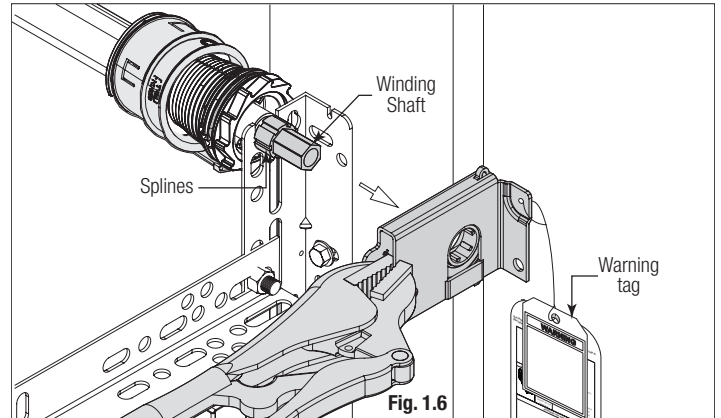

Fig. 1.6
**STEP 6:** Holding the end bracket with a pair of locking pliers, carefully pry the end bracket from the flag angle / rear support bracket and winding shaft with a flat head screwdriver, as shown in Fig. 1.6. Repeat for left hand end bracket.